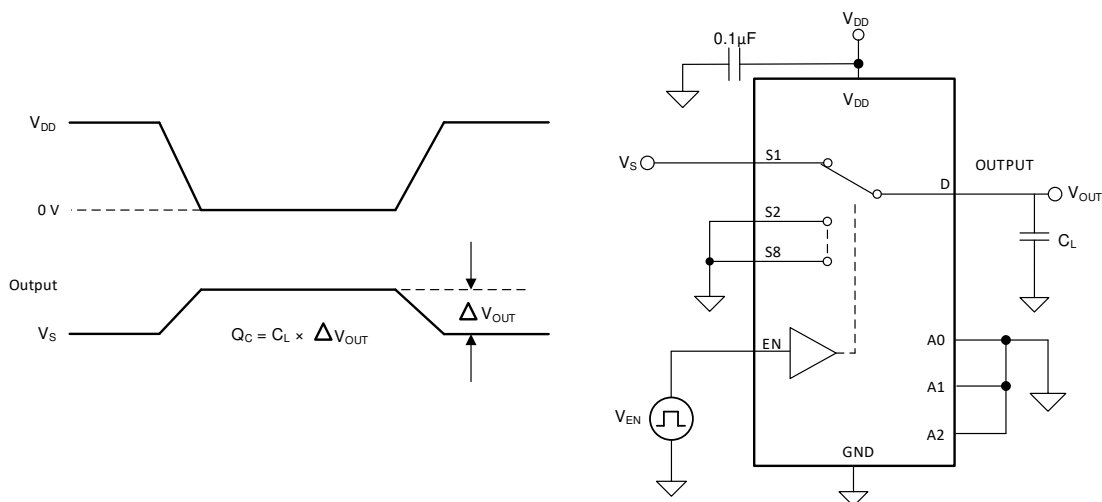

Figure 7-7. Charge-Injection Measurement Setup
The TMUX1208-Q1 has a transmission-gate topology. Any mismatch in capacitance between the NMOS and PMOS transistors results in a charge injected into the drain or source during the falling or rising edge of the gate signal. The amount of charge injected into the source or drain of the device is known as charge injection, and is denoted by the symbol Q_C . Figure 7-7 shows the setup used to measure charge injection from source (S_x) to drain (D).